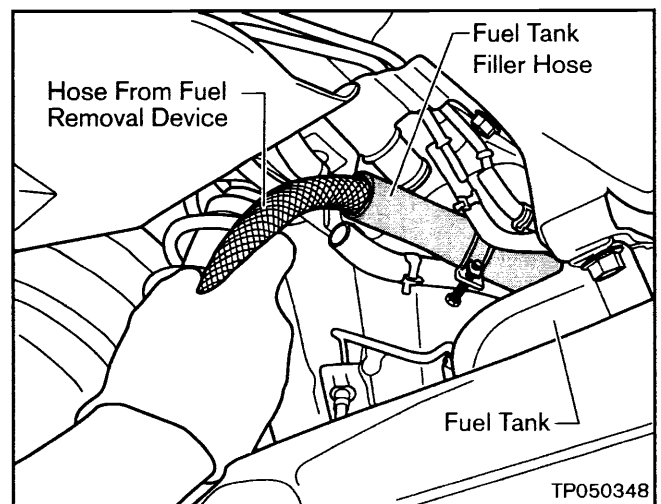

Figure 9
7. If the Fuel Tank level is over 1/8 full, use a suitable fuel removal device to pump fuel out of the Fuel Tank Filler Hose (see Figure 9).